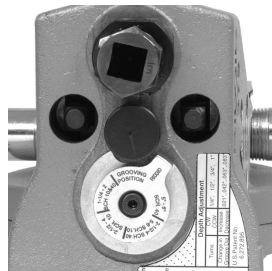

Figure 5 – Gauge In Grooving Position
2. Make sure the groove depth gauge is in the grooving position. (Figure 5)